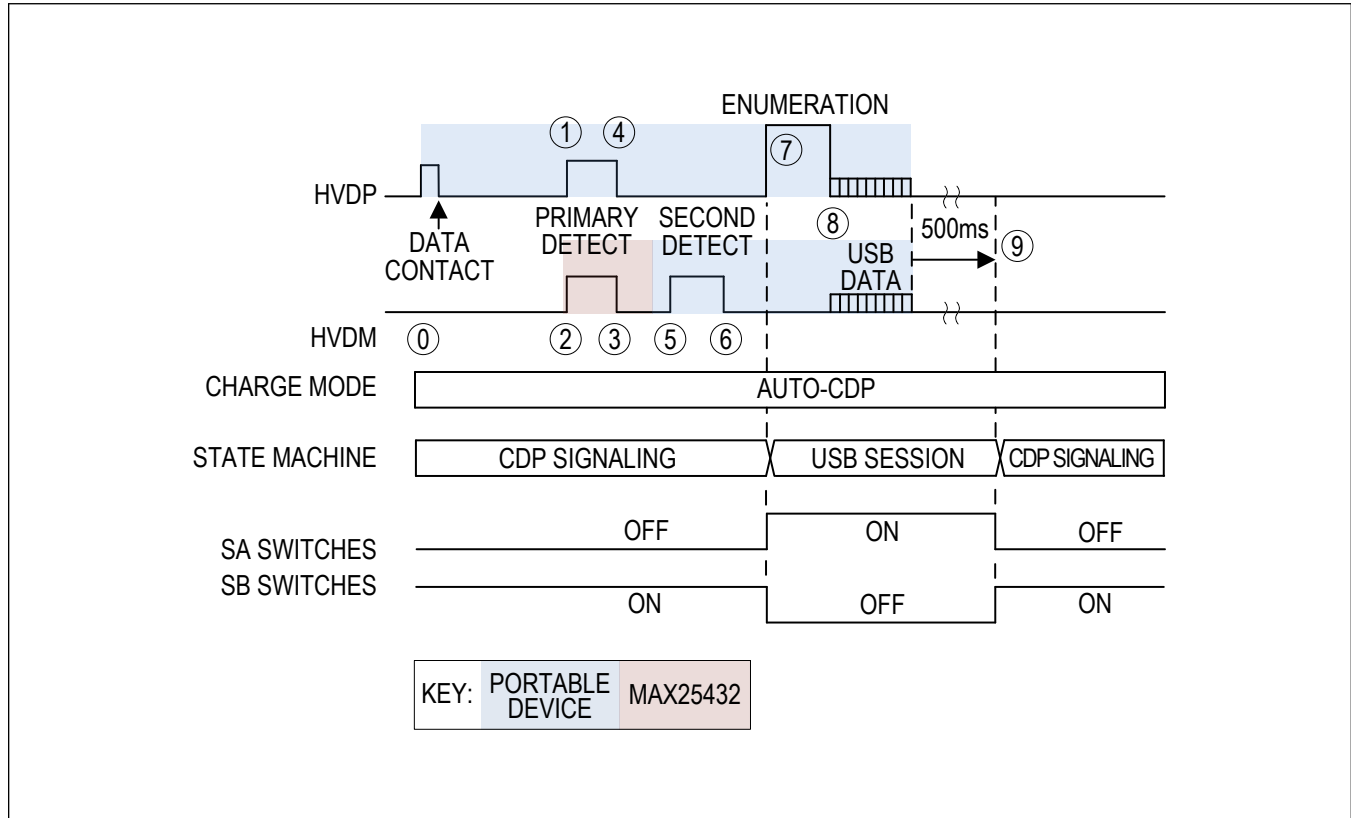

Figure 14. Auto-CDP State Diagram
- The USB data switches (SA switches) are initially open (step 0 in Figure 14), and the detection circuitry is connected to HVDP/HVDM (SB switches). This is the resting state in the Auto-CDP mode and is called CDP Signaling state. In the CDP Signaling state, 19k Ω (typ) pulldowns are applied on HVDP/HVDM and IDAT_SINK is active on HVDP.